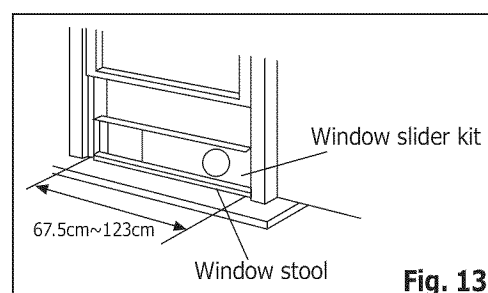
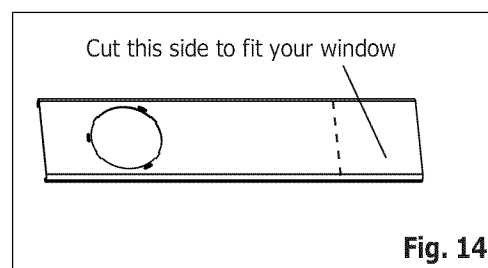
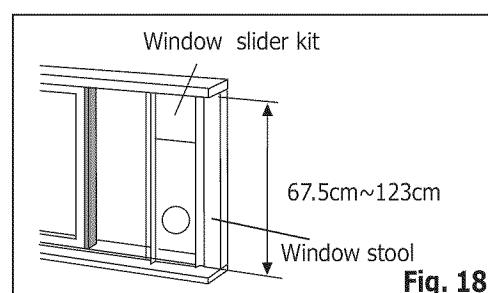

Fig. 13
Fig. 14
Fig. 18
2. Attach the window slider kit to the window stool. Adjust the length of the window slider kit according to the width of window. Cut the adjustable window slider kit if the width of window is less than 67.5cm (Fig. 14). Open the window sash and place the window slider kit on the window stool. (Fig. 13)
2. Attach the window slider kit to the window stool. Adjust the length of the window slider kit according to the height of window. Cut the adjustable window slider kit if the height of window is less than 67.5cm (Fig. 14). Open the window sash and place the window slider kit on the window stool. See Fig.18.